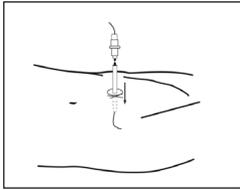

Figure 3
11. Remove introducer catheter and thread tip of 8 Fr. catheter over guidewire (be certain that sufficient wire guide length remains exposed at hub end of catheter to maintain firm grip on wire guide). Grasping near skin, advance catheter to required depth in peritoneal cavity (refer to Figure 3).